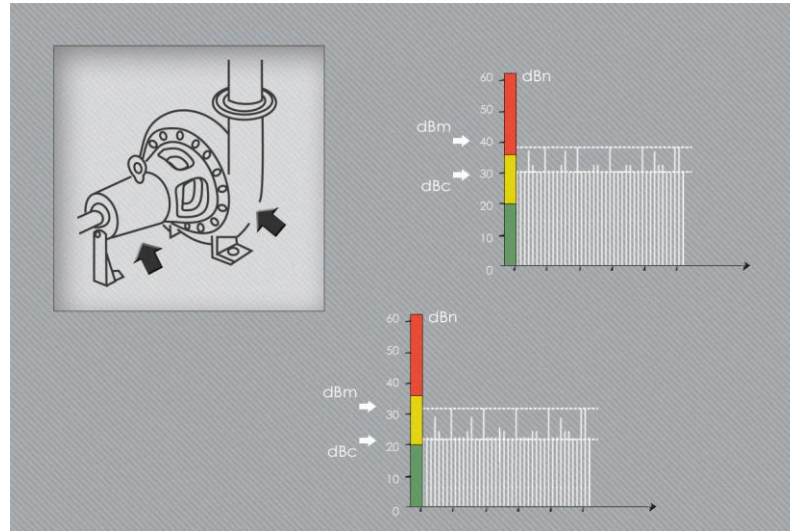

Figure 4-15. Cavitation or similar problems.
g) Cavitation or similar problems (Figure 4-15).